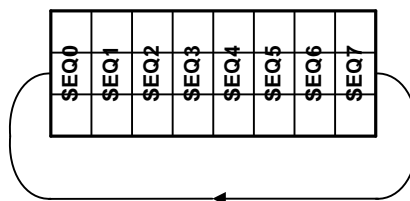
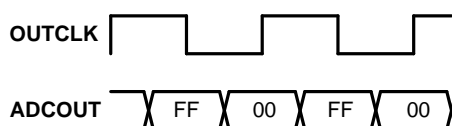

Figure 40. State Machine Generating Fixed Pattern Sequence
Figure 41. Fixed Pattern at ADC Output with Default SPI Register Values
For flexibility, the user can determine a fixed pattern with a depth of 8 patterns as shown in Figure 40. The user can fill these 8 sequences (SEQ0 – SEQ7) with an arbitrary pattern (PATTERN (000) – PATTERN (111)). See Register Map address 08h through 0Bh below for the details. The default register value for all SEQ0 through SEQ7 sequences is 010, which generates alternating 0xFF and 0x00 at the ADC output as shown in Figure 41. Note that since the ADC outputs odd bits on the falling edge of the OUTCLK and even bits on the rising edge, the resulting 16-bit output codes are 0xAAAA.